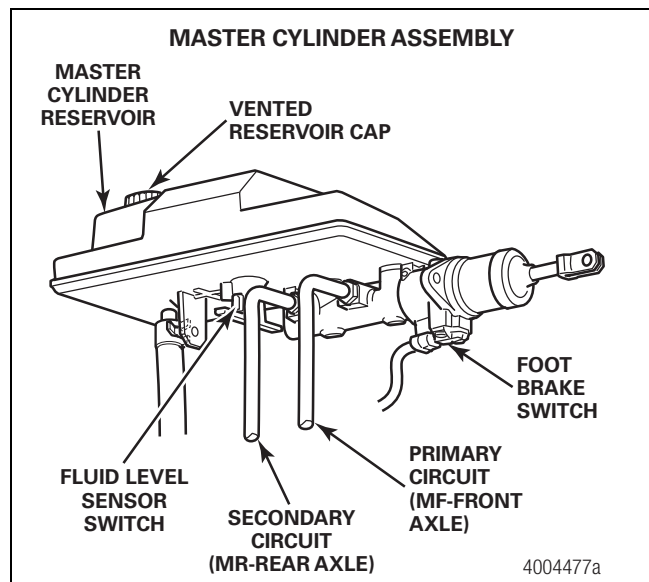

Figure 13
4. Connect the fluid level switch on the master cylinder reservoir. Figure 13.